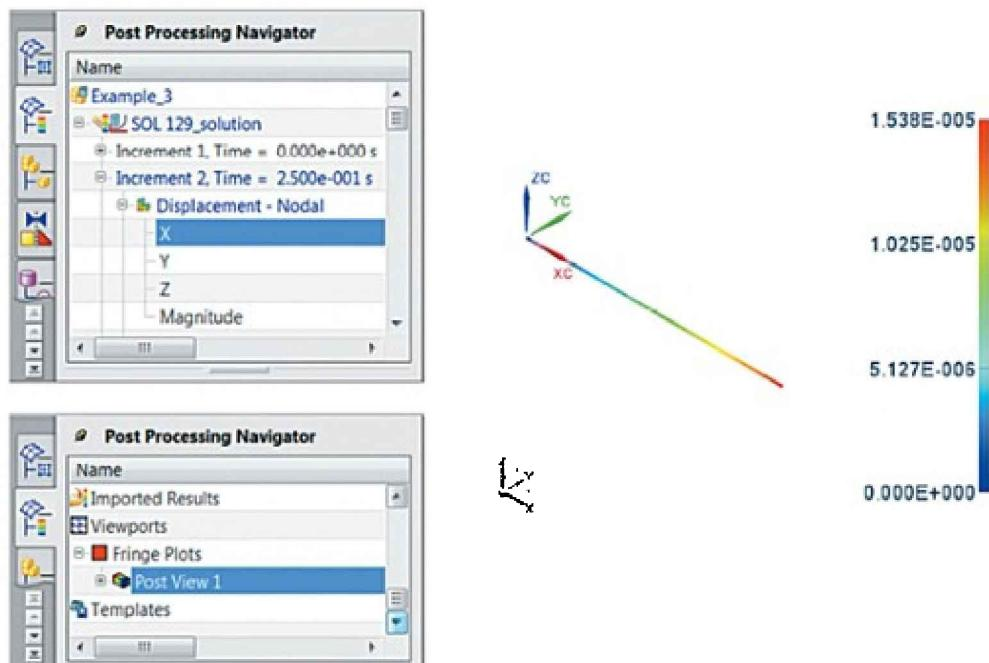

Figure 5.9. Displaying the X axis component of the displacement vector
In the example shown in Figure 5.9, displacement values along the X axes are selected for the iteration number two.
- Under the *Viewports* item, a *Fringe Plots* and a *Post View <n>* bullets appear (Figure 5.9).
- In the graphics area, a contour diagram is displayed (Figure 5.9).